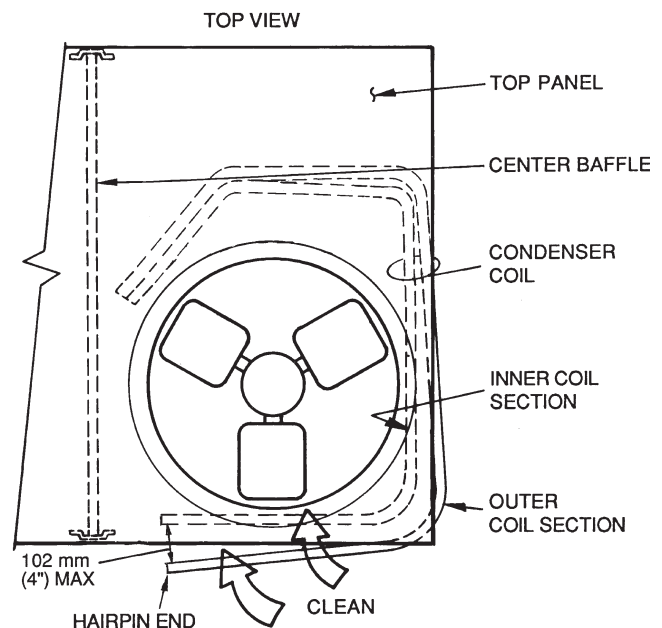

Fig. 14 — Separating Coil Sections
5. Remove the fastener holding the coil sections together at the return end of the condenser coil. Carefully separate the outer coil section 3 to 4 in. from the inner coil section. See Fig. 14.